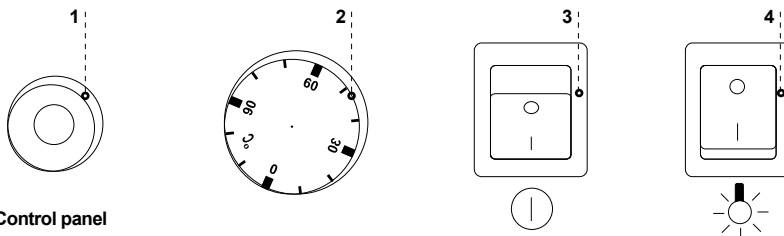

Fig.3 Control panel
- Turn on the main switch Fig.3/3 (p.9), which activates the electric heaters of bain-marie tank
- Set the desired temperature on thermostat control panel Fig.3/2 (p.9)
- Turn on the lighting switch Fig.3/4 (p.9)
Bain-marie is equipped with mechanical temperature regulator. Temperature sensor is located in the bain-marie tank. We set the desired water temperature in the tank Fig.3/2 (p.9) with the help of regulating knob by turning it and setting in proper position. Turning the knob clockwise increases the set temperature, and turning it in the opposite direction causes the decrease of temperature. Turning the knob left, until it reaches the final position turns off the heaters, despite the fact that the power supply is activated.